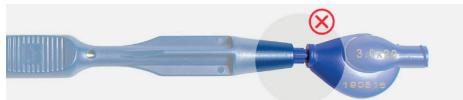

Figure 5: TubaVent is wrongly seated in the Tubalserter
- Shortening the insertion length of the catheter may cause the balloon to remain in the introducer and damage the balloon. The catheter connector must therefore be firmly seated in the introducer during dilatation to ensure the ideal insertion length (see Figures 5 and 6).